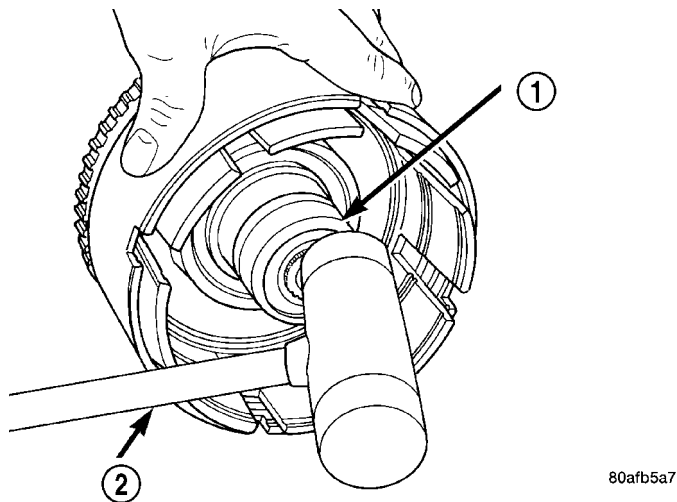

Fig. 207 Tap on Input Hub
(16) Tap on input hub with soft faced hammer and separate input hub from OD/Reverse piston and clutch retainer (Fig. 207).